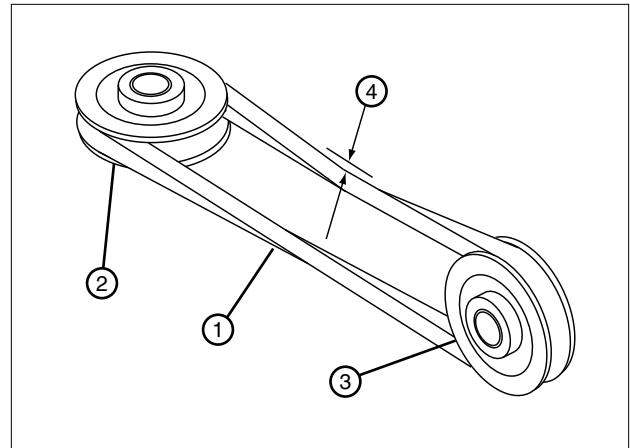

Figure 37-1 1. V-belt
With the center drive gearbox and engine pulleys engaged with v-belt, depress v-belt with 4 to 6 lb of force midway between the center drive gearbox and engine pulleys, the deflection of v-belt should be approximately 5/16 in (0.79 cm). Adjust v-belt tension as needed. See figure 37-1.
1. Loosen 1/4 in hex nut securing eye bolt to turnbuckle. See figure 37-1.